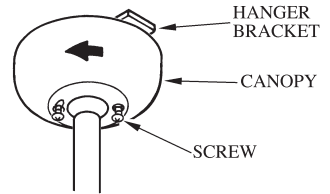

FIG.6
3. Loosen the two canopy mounting screws from the hanger bracket. Mount the canopy on the two screws in the hanger bracket and twist the canopy, so the screw heads hold the canopy in place. Retighten the two screws (see Fig.6)